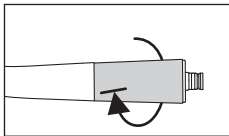

Fig. 45
- ➍ Firmly tighten the taper ring (Fig. 45).